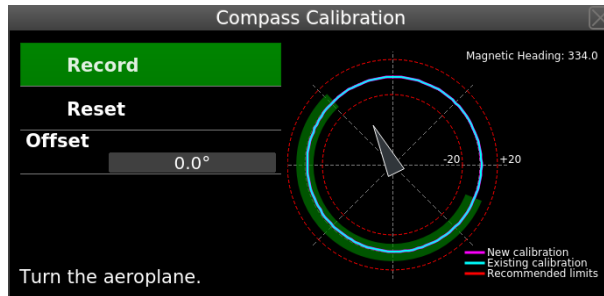

Figure 2: Compass calibration dialog - first step is in the progress.
- In the second step, this remaining offset error is entered manually. In order to obtain the offset error, aircraft shall be directed into two or three known reference magnetic headings. Write down the differences between the reference magnetic heading and the heading shown on the dialogue on Figure 2. Average value of the differences, gives the final offset, which should be entered into the device. Note that the second step can be done much later (a few days or weeks) than the first step.
Figure 2 shows compass calibration dialog.
between known reference magnetic headings and by the headings shown on the dialogue on Figure 2. This error is more or less constant regardless to the direction.